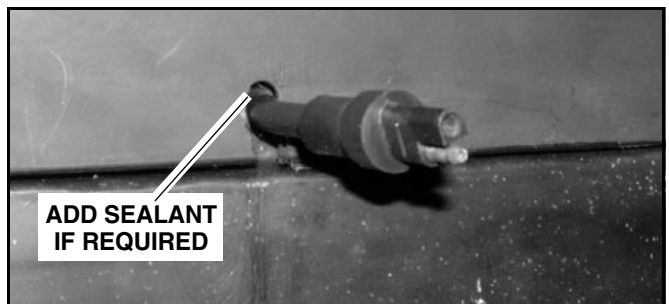

Figure 13
4. Put additional silicone sealant into the void area around the harness if required (See Figure 13).